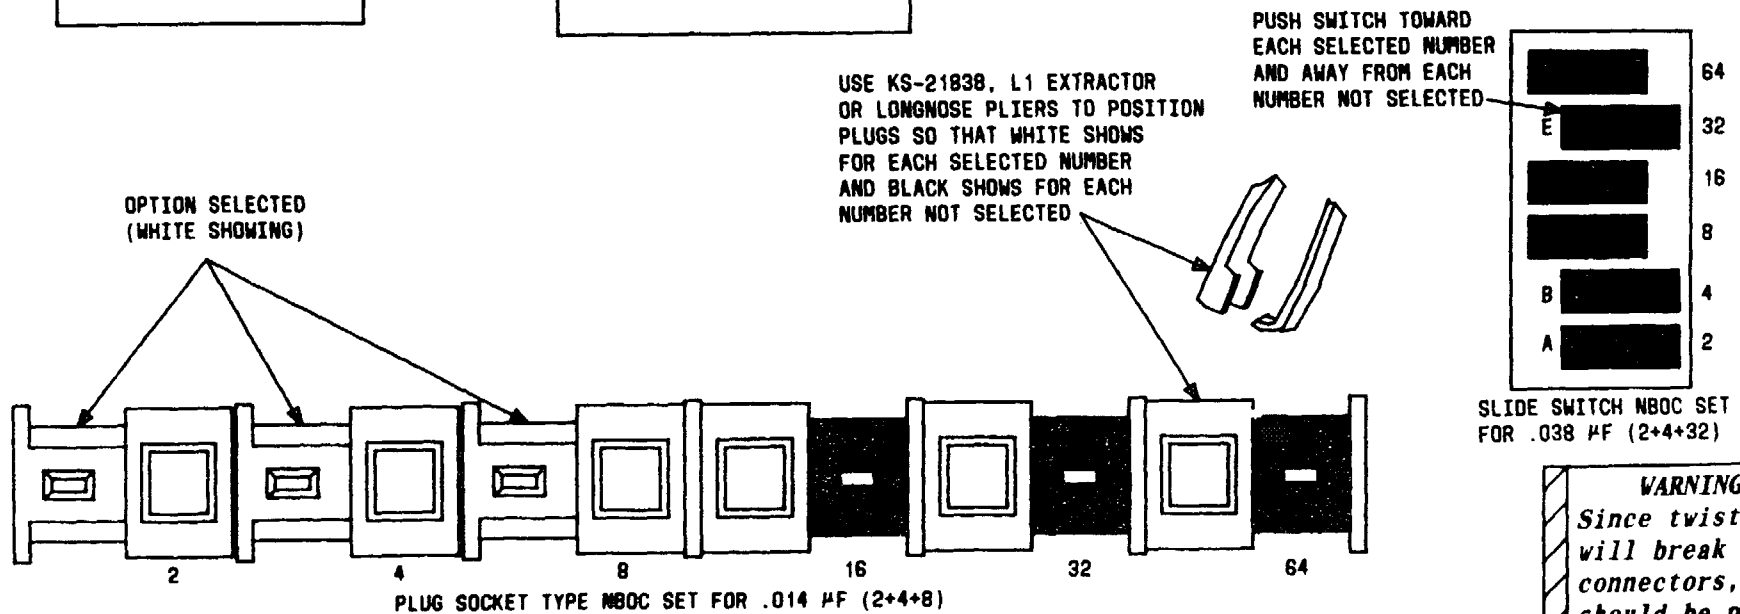

FIG. 1
[1] Which type of attenuator are you going to option? See FIG. 1, 2, and 3
- Socket and plug [FIG. 1] → Page 2